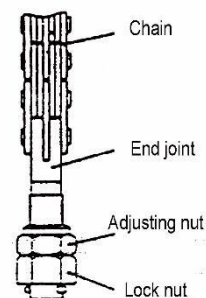

Fig. 8-6
(2) Make the bottom of the fork contact the ground, and adjust the adjusting nut of the upper-end joint of the chain so that there is a distance A between the main roller and the fork carrier. 1.5-1.8t forklift, A: 36~41mm; 2-3t forklift, A: 24~29mm.
(3) Lower the fork to the ground and tilt it back into position. Adjust the q-end joint of the chain, and adjust the nut to make the two chains have the same tension. (Figure 8-6)
- (1) Put a pallet on the fork and park the car on the level ground.
- (2) Drop forks and pallets to the ground.
- (3) Remove the upper-end joint of the chain and remove the chain from the sprocket. (Figure 8-6).